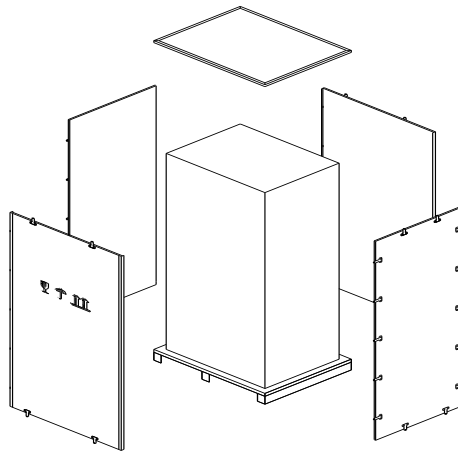

Fig.3-3 Disassemble the case
3. Open the top plate of the steel-edged wooden case with slotted awl and pier, followed by side boards (see Fig.3-3).